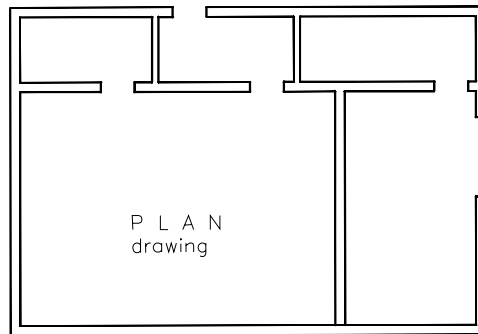
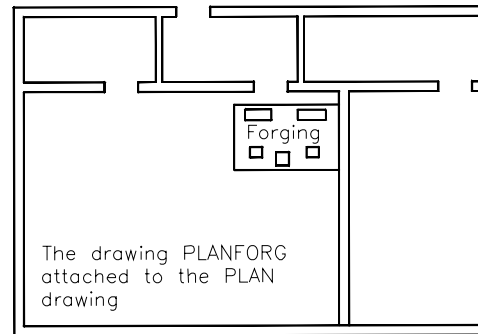

Figure 16-19 The PLAN drawing
Figure 16-20 The PLAN drawing after attaching the PLANFORG drawing
4. Open the drawing file **PLAN** (Figure 16-19), and select the **Attachment** radio button in the **EXTERNAL REFERENCES** palette, which is displayed when you have selected the **PLANFORG** drawing in the **Select Reference** dialog box to attach as an xref to the **PLAN** drawing. You will notice that only the **PLANFORG** drawing is attached (Figure 16-20). The drawing that was overlaid in the **PLANFORG** drawing (**PLAN**) does not appear in the current drawing. This way, the CAD operator working on the **PLANFORG** drawing can overlay the **PLAN** drawing, and the CAD operator working on the **PLAN** drawing can attach the **PLANFORG** drawing, without causing a circular reference.